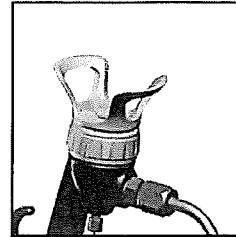

Fig. 40
5. Slip on the plastic tip guard onto the air cap in proper orientation. (See fig 40)